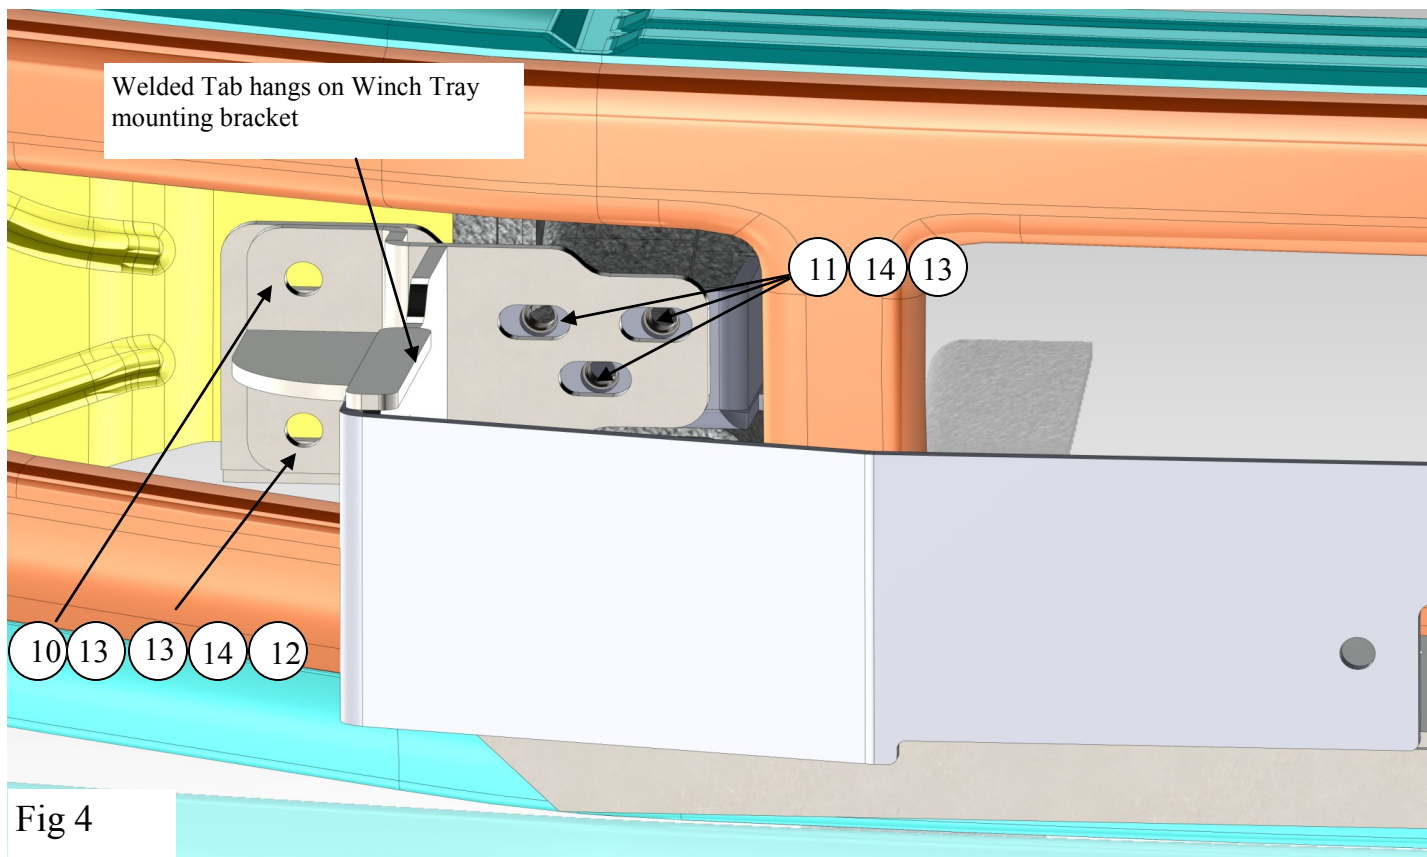

Fig 4
5. Locate the drivers side winch tray mounting bracket and attach it to the previously installed brackets and bumper. For the two mounting holes located on the outside of the bracket attach with , (2) M12 x 50MM hex head bolts, (4) M12 flat washers, (2) M12 lock washers, and (2) M12 hex nuts, for the three inside mounting holes attach using (3) M12 X 40MM hex head bolts, (3) M12 lock washers, and (3) M12 flat washers (FIG 4). Repeat this step for the passenger side. Do not fully tighten at this time.
7. With assistance take the winch tray assembly and hang it on the winch tray mounting bracket (NOTE: there is a welded tab on each side of the winch tray this used to hang the tray on the mounting brackets for ease of installation) (FIG 4)